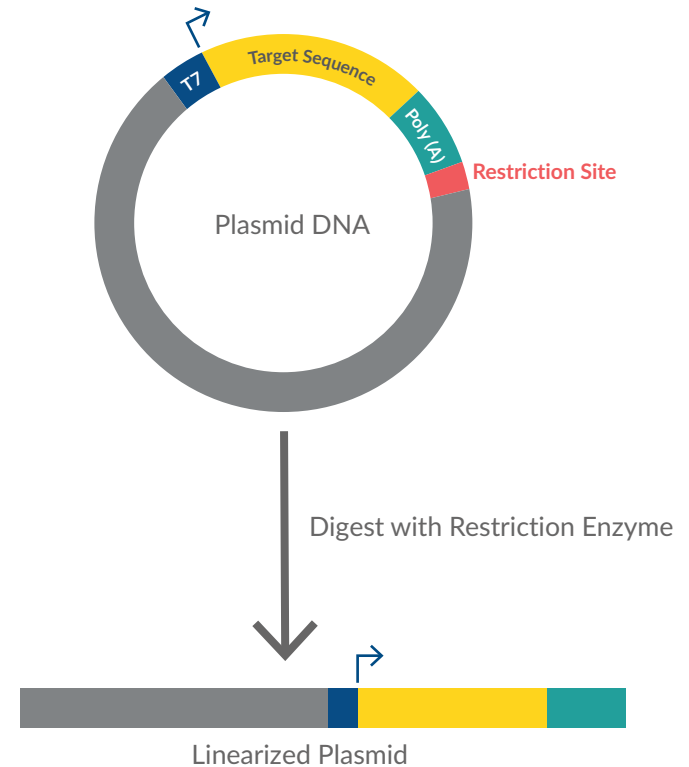

Figure 2. Linearization of plasmid DNA
- Poly(A) tail, 100-120 bases in length
- **Plasmid DNA:** When using a plasmid DNA template, ensure that the plasmid is completely linearized prior to transcription (see Figure 2). Linearization is achieved by restriction enzyme digestion at a site downstream of the gene cassette that preferably generates a blunt end or 5'-overhang. This is important because circular plasmids can impede the transcription process. After linearization, it is recommended to purify the DNA template by phenol:chloroform extraction or by using a spin column-based purification method.